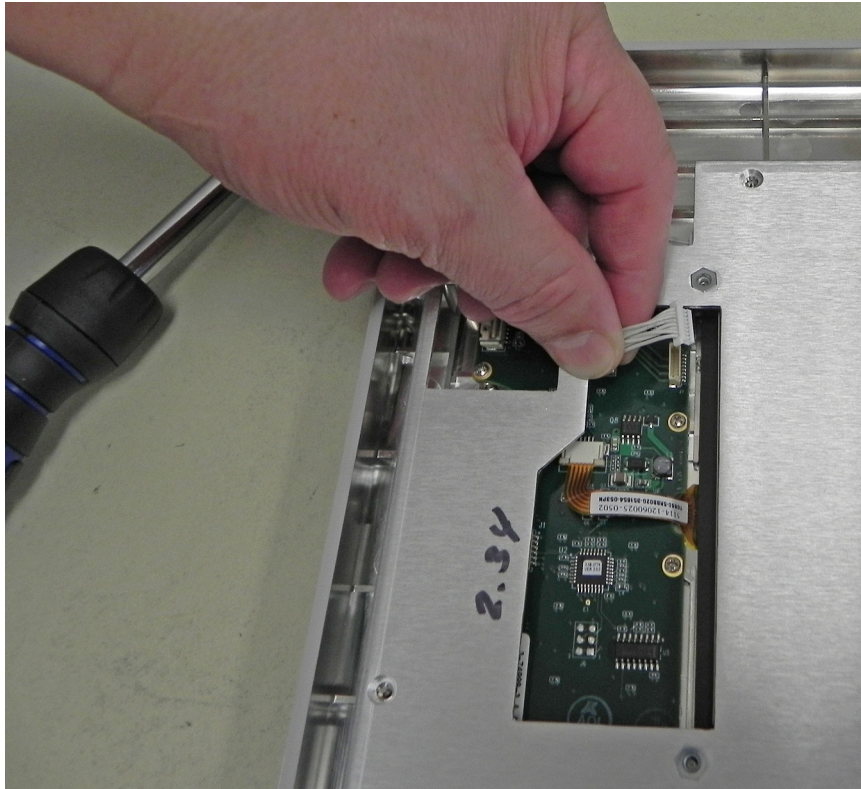

Figure 5-24. Disconnect Backlight Cable
3. Disconnect the LCD backlight cable from the keypad PCB (Figure 5-24).